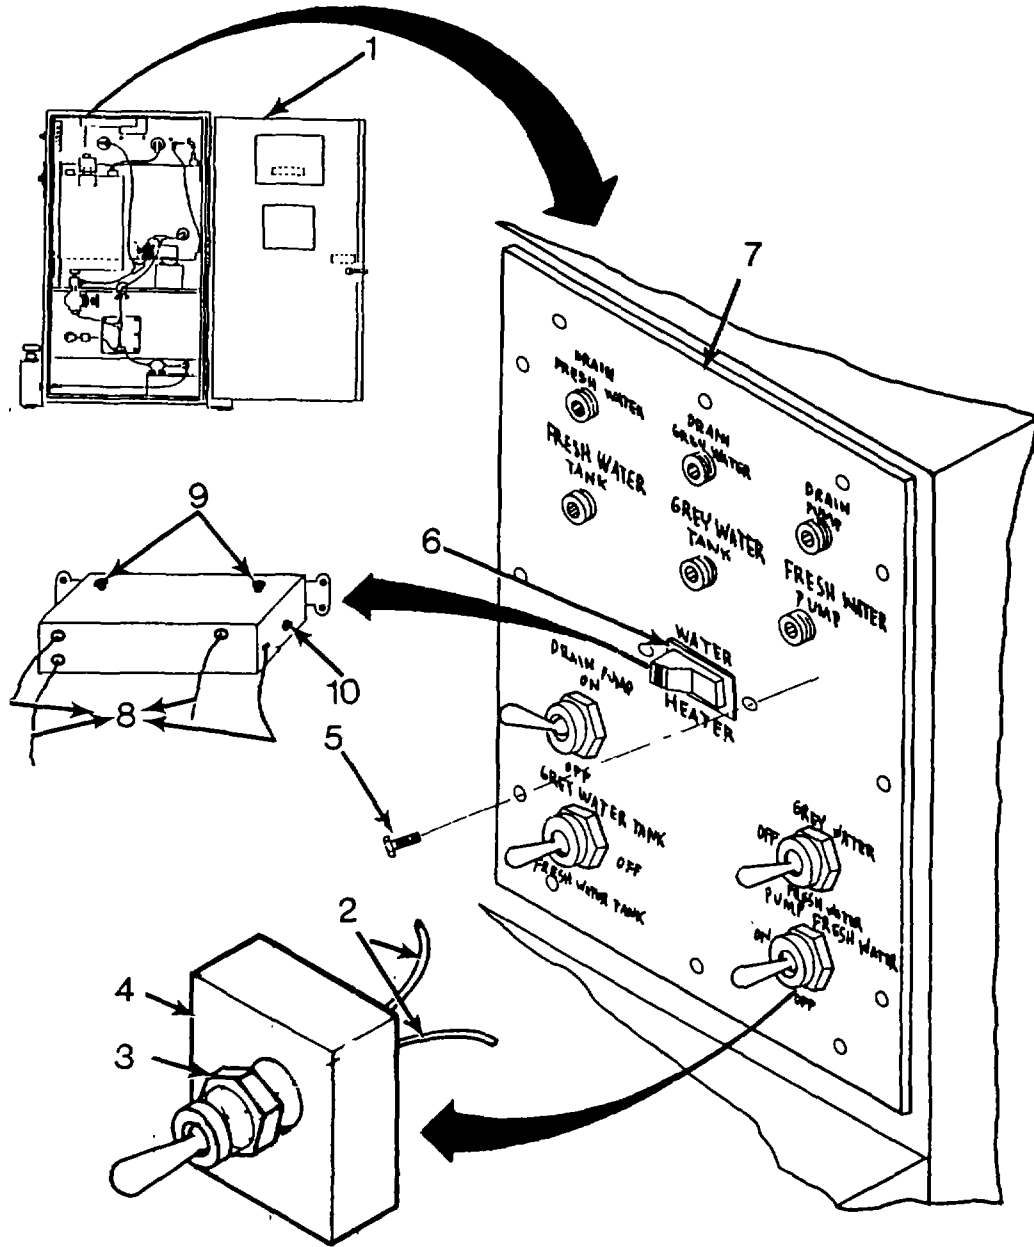

Figure 4-21. Replace Switch
- (7) Remove pump (12), remove brass fittings (13), and repair pump if necessary. (See paragraph 4-22.L. below.)
- (8) Cut and strip cord (14) on new pump (12) to same length as old pump cord (14) and attach terminal lugs to green and white wires (6).
- (9) Install brass fittings (13) on new pump (12).
- (10) Place new pump (12) in position.
- (11) Install screws (8), flat washers (9), lockwashers (10), and nuts (11) holding pump in place.
- (12) Connect green and white wires (6) to terminal board (7).
- (13) Solder wire (4) to switch 52 (5) and attach tie straps.
- (14) Attach hoses (3) and clamps (2).
- (15) Close rear door (1).
- (16) Turn power on and test operation.
- d. Repair by replacing Toggle Switch. (Refer to figure 4-21.)
(8) Close rear door (1).
e. Repair by replacing water heater switch. (See figure 4-21.)